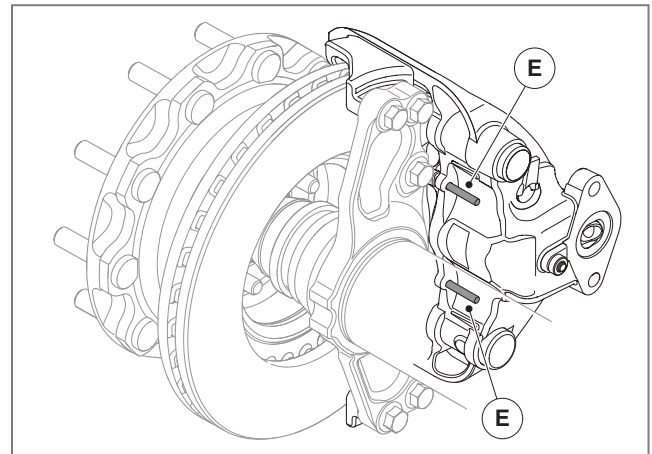

Fig. 22 - The two thrust plate guide pins
3. Check that the two thrust plate guide pins (E) are in their correct position, see ► Fig. 22.